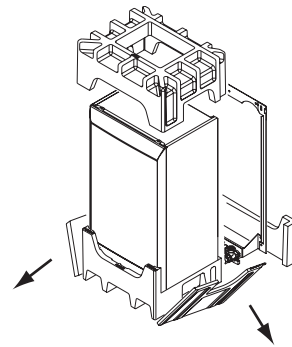

Fig. 33
b) Slide the upper polystyrene cap off the boiler. Break off the side and rear of the lower polystyrene cap. The wall plate can now be removed (Fig. 33).